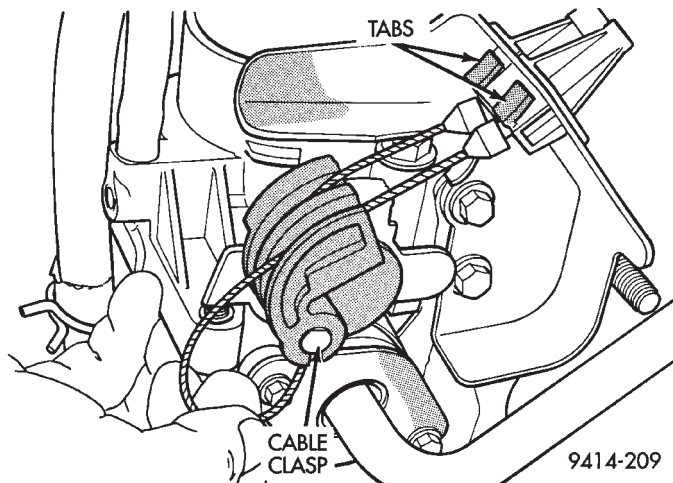

**Fig. 7 Disconnecting Throttle Cable—Typical
- (1) Slide cable into throttle cable bracket and engage retaining tabs.
- (2) Rotate the throttle cam forward to the wide open position and install speed control cable clasp (Fig. 7).
- (3) Rotate the throttle cam forward to the wide open position and install throttle cable clasp.
- (4) Install retaining clip to cable at servo.
- (5) Insert servo studs through holes in the mounting bracket and speed control cable.
- (6) Install nuts, tighten to 6.7 N·m (60 in. lbs.).
- (7) Connect vacuum hose to servo.
- (8) Connect electrical connector.
- (9) Install servo and bracket and tighten nuts and bolt.
- (10) Connect negative battery cable.
- (1) Slide speed control cable into bracket and with locator positioned into notch in bracket, then slide throttle cable into bracket and engage retaining tab.
- (4) Install throttle cable bracket and tighten bolts.
(5) Route cable through bracket and install retaining clip to cable at servo.
(6) Insert servo studs through holes in mounting bracket and speed control cable.
(7) Install nuts, tighten to 6.7 N·m (60 in. lbs.).
(8) Connect vacuum hose to servo.
(9) Connect electrical connector.
(10) Install servo and bracket and tighten bolts.
(11) Connect negative battery cable.